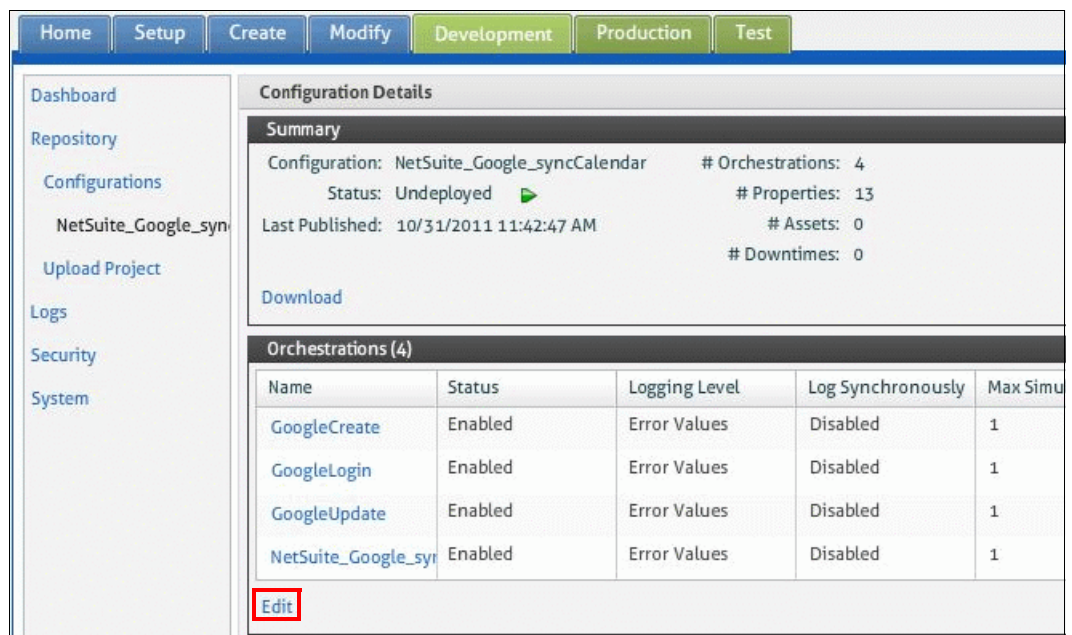

Figure 11-45 Project Configuration Details
2. Click **Edit**, as shown in Figure 11-45.